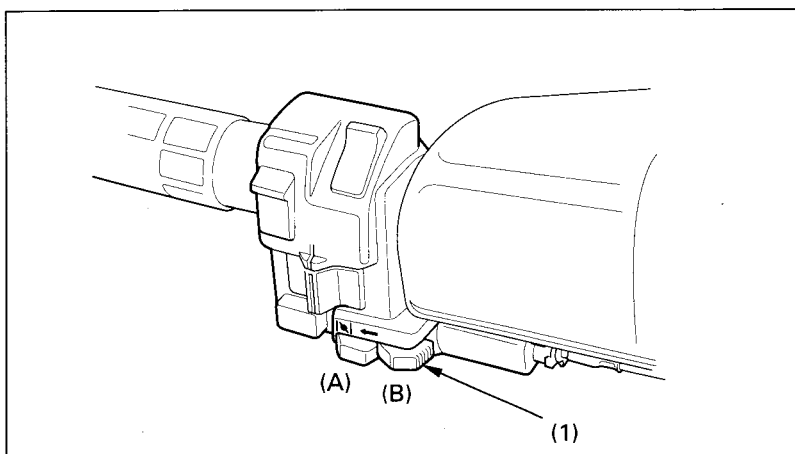

Fig. 2-7 (1) Choke lever
The choke lever (Fig. 2-7) is next to the starter button. The choke has two positions: fully ON (A), and fully OFF (B).